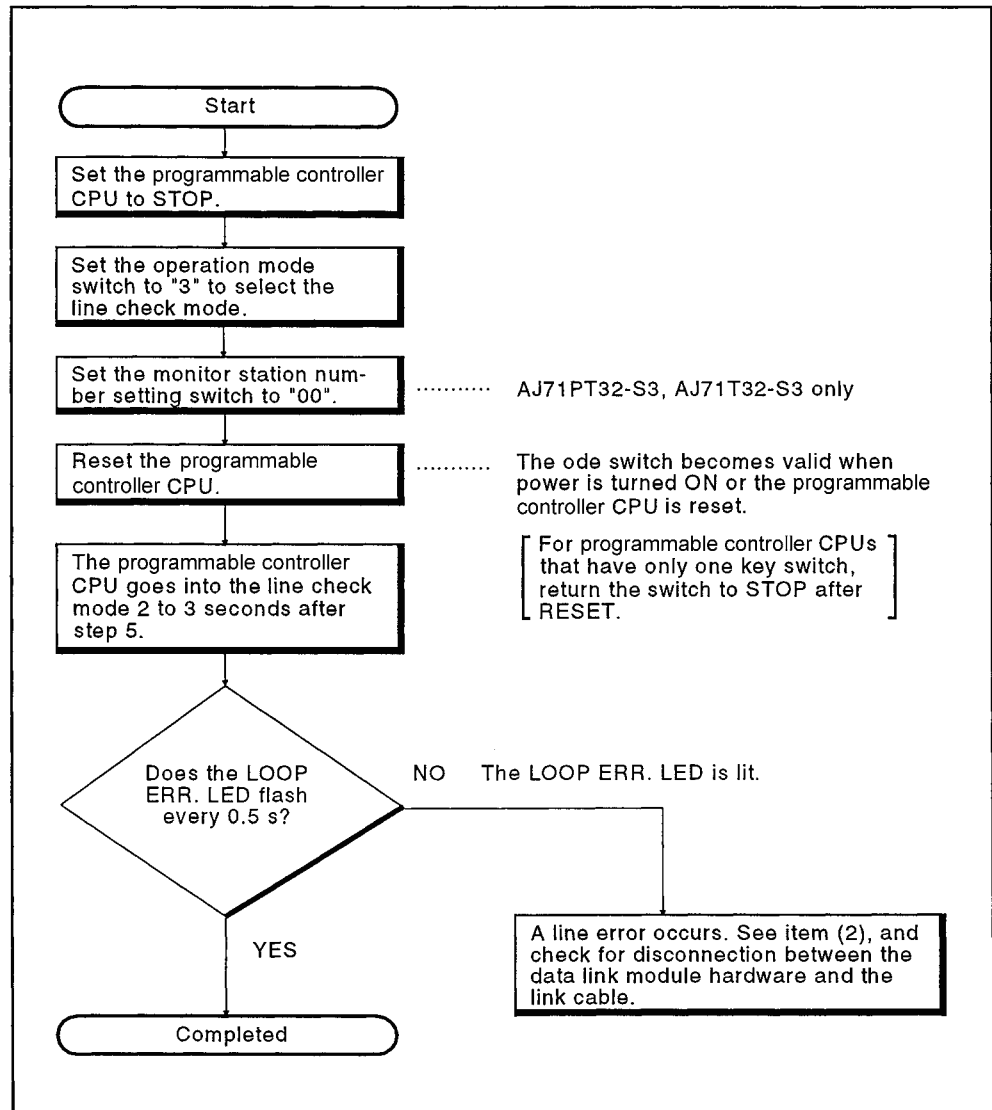

Fig. 4.7 Shows How to Perform the Check
(1) Fig.4.7 shows how to perform the line check.